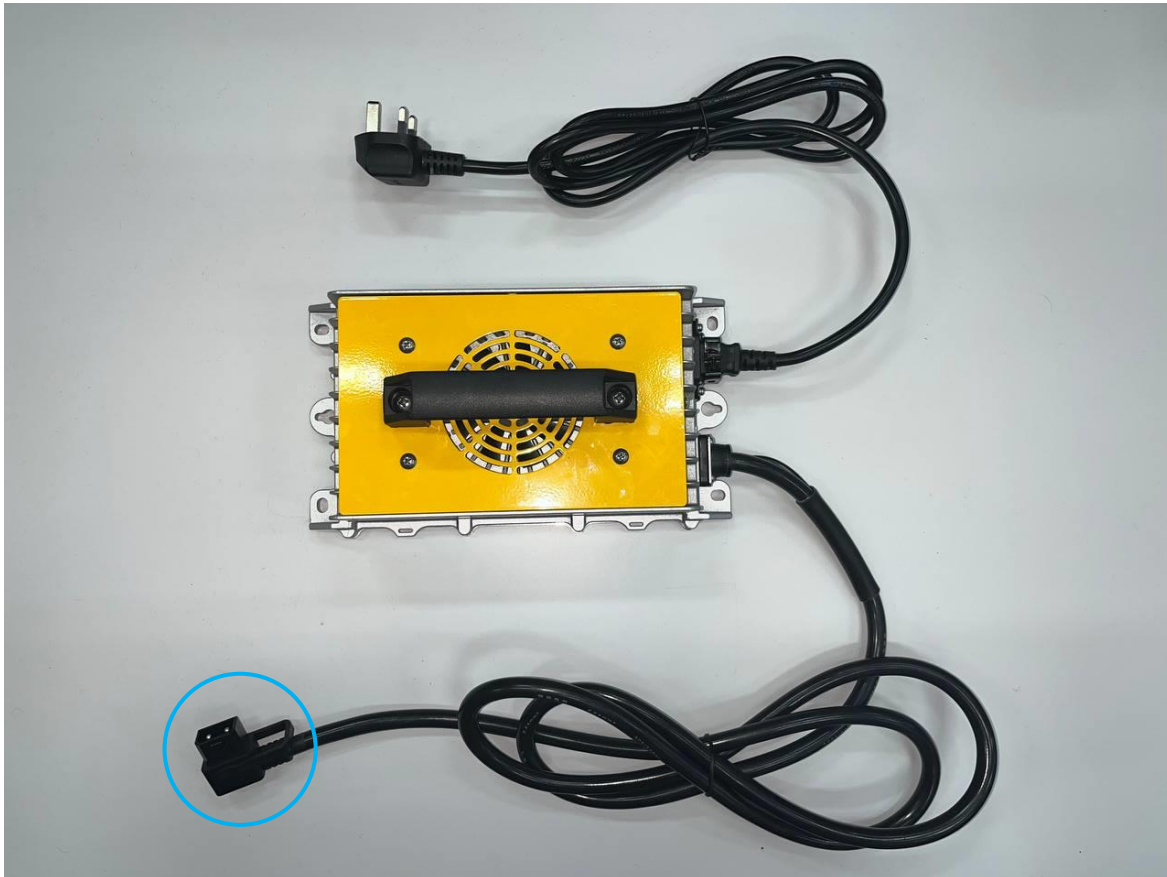

Fig. 2
2. Insert the battery charger plug (Fig. 2) into the battery port.